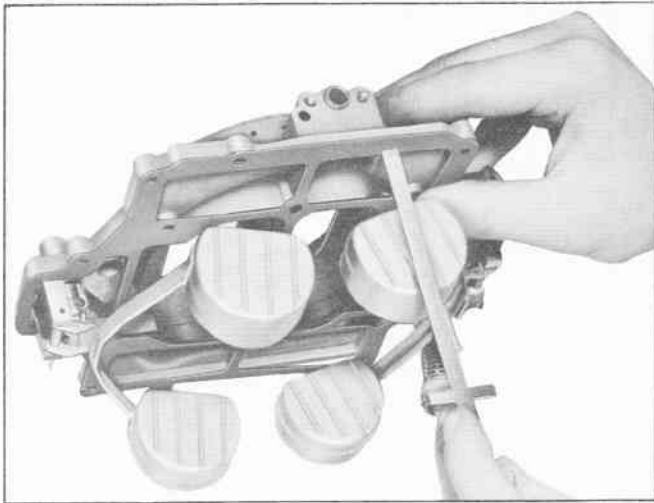

Fig. 22 Checking Float Drop
1. Check distance between air horn and bottom of float with air horn held in upright position (Fig. 22). Float drop is correct when distance between air horn, with gasket installed, and float is 2-1/4".